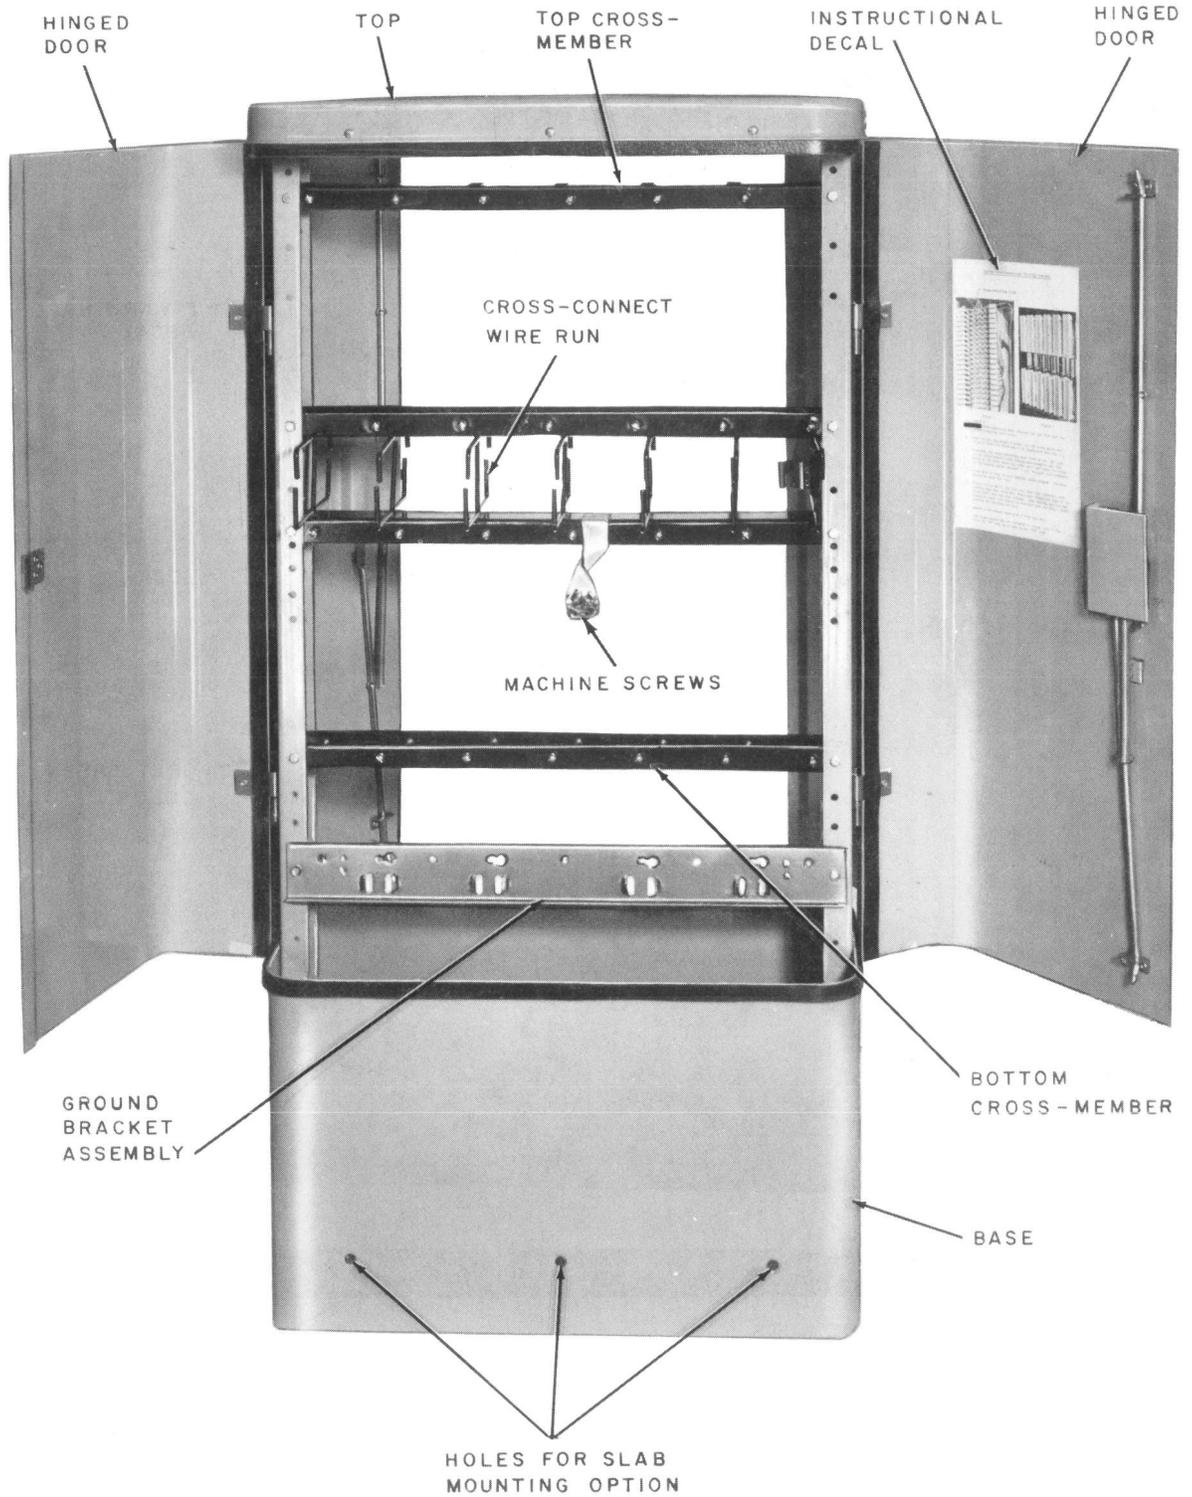

Fig. 1—UP-1254 Cable Closure
3.01 The UP-1254 cable closure (Fig. 1 and 2) consists of a top, hinged front and back doors equipped with locks, ground bracket assembly, mounting hardware (nylon coated), base, and two anchor posts. (Iron mounting angles are available for local option where preference is to slab mount the UP-1254 cable closure. These iron mounting angles may be purchased on special order.) An F warning decal is placed on the exterior surface and an instructional decal is placed on the interior surface by the manufacturer. The exposed metal parts are galvanized and have a grey-green baked enamel finish. The internal metal parts are hot dip galvanized. Machine screws are provided for mounting the 89B brackets.